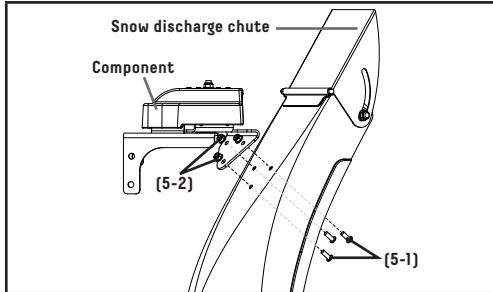

Figure 9A
1. Remove the bolts (5-1) (Fig. 9A) and nuts (5-2) (Fig. 9A) on the snow discharge chute (Fig. 9A). Hold for later step.
2. Tighten snow discharge chute and the component shown in Fig. 9A using three bolts (5-1) (Fig. 9A) and three nuts (5-2) (Fig. 9A). Be careful not to deform the plastic.